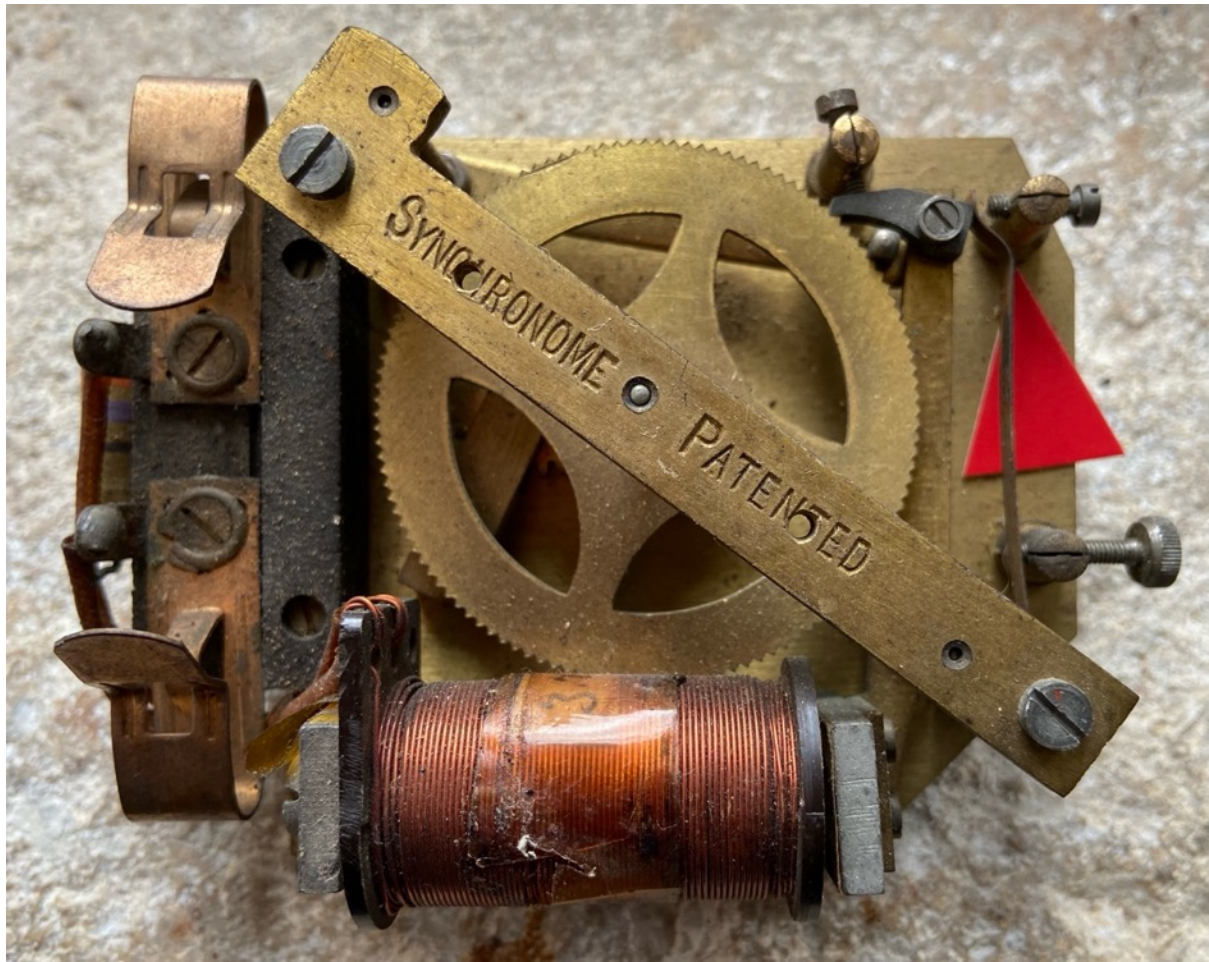

Figure 8 – Click energised adjustment stop.
3. Next adjust the click energised adjustment stop (Figure 8). Using finger pressure, simulate the operation of the coil and move the armature such that the click/pawl gathers one tooth. Adjust the click energised adjustment stop to allow the pawl to drop behind the tooth to be gathered again with a little clearance. Once again – check for a whole rotation. Note: the coil and yoke should have enough clearance at this stage not to impede the movement of the armature – which is why it was left loose.